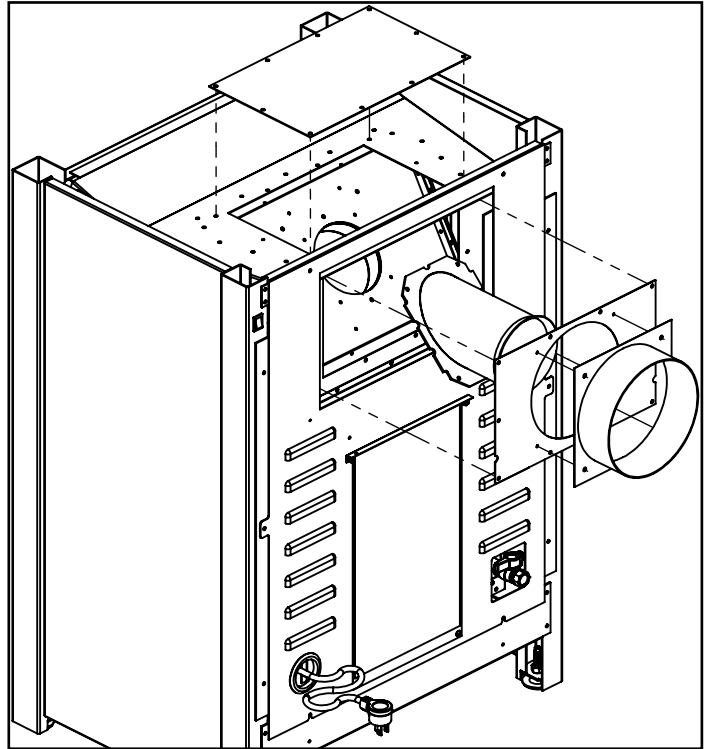

Figure 19. Vent Conversion - Step 3
**Step 3:** Switch the removed parts around as shown in Figure 19 and re-install all 28 screws. To correctly install the base plate keep the locating notch on each side at the bottom. Also note the exhaust spigot uses a lower set of holes when setup as a rear vent.